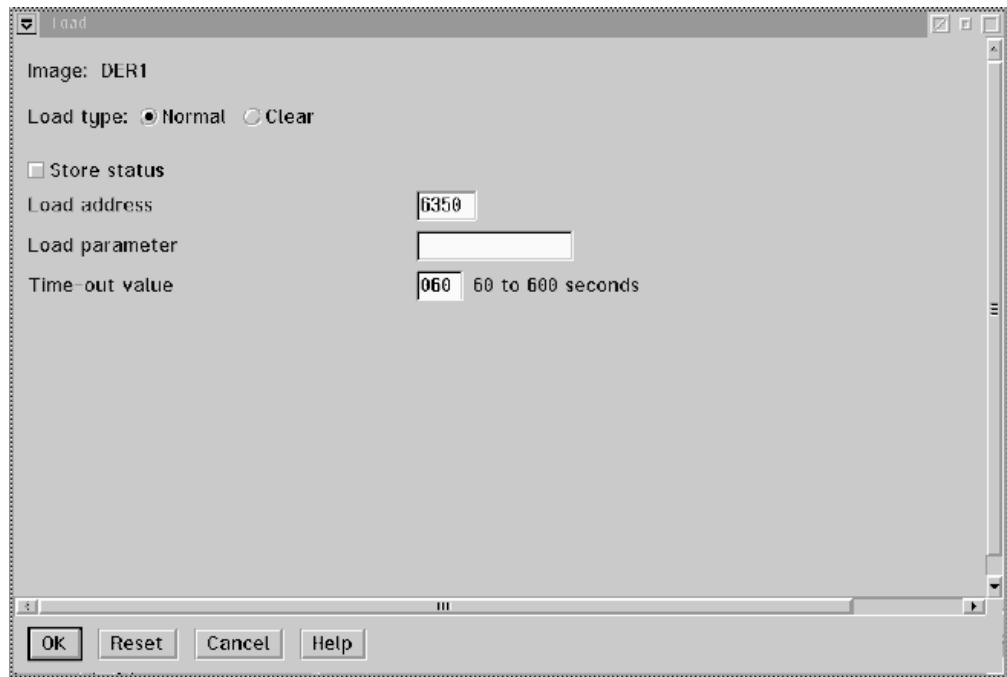

Figure 70. Load panel for booting from DASD or tape
- a. Select **Load type** “Normal” (see Figure 70).